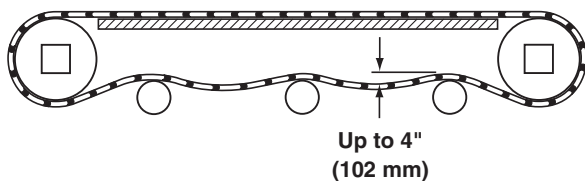

Figure 52
4. Check belt sag by measuring from the top of the return (**Figure 52**). Belt sag should not exceed 4" (102 mm). Follow steps 7 – 9 in the "Belt Installation" section on page 15 to remove slack from the belt.